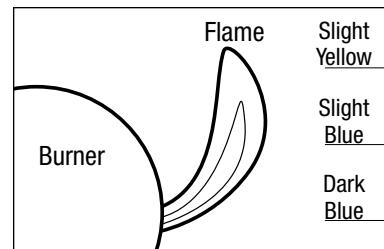

Figure 7
8. After lighting, observe the burner flame. Make sure all burner ports are lit and flame height matches illustration (Figure 7).